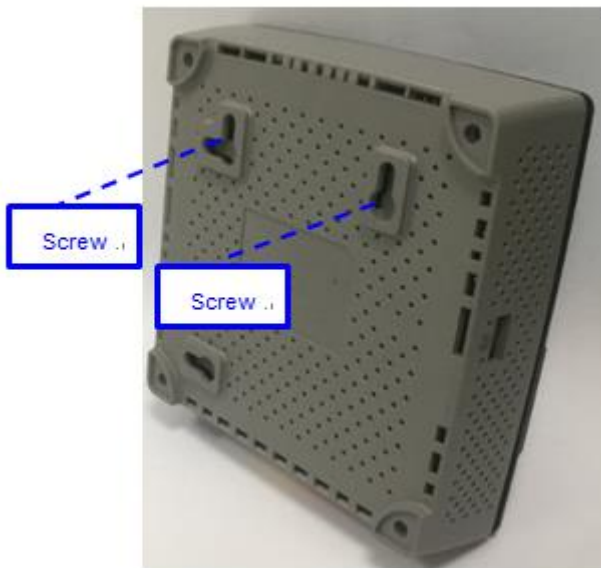

Figure 5. Place Ø3.5*30L Screws
3. Install two Ø3.5*30L Pan Head screws. Leave approximately 1/4-inch (0.6 cm) protruding from the mounting surface. Refer to Figure 5.